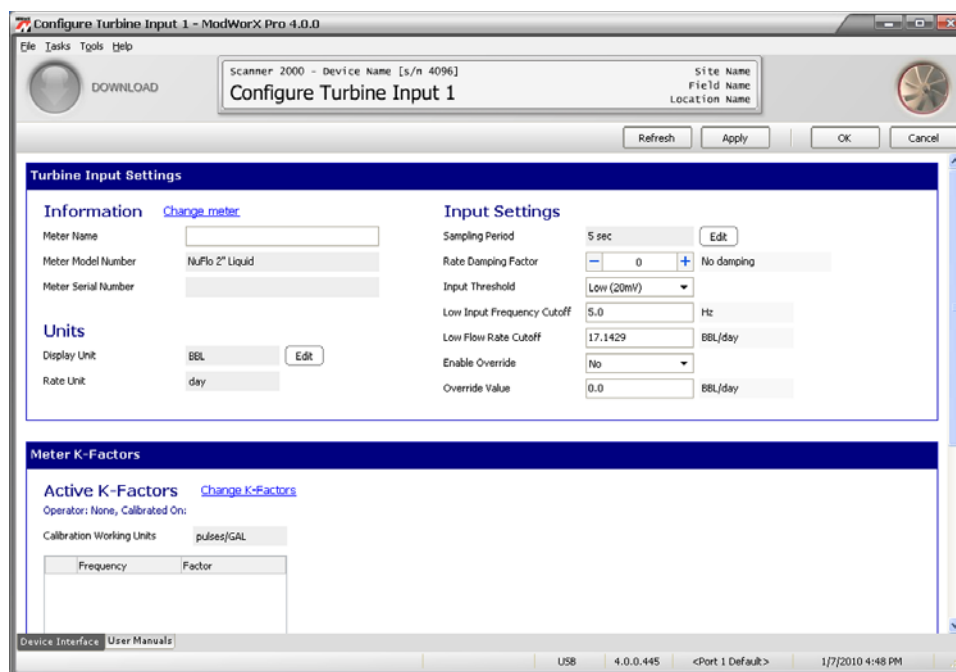

Figure 5.3
The Configure Turbine Input screen will appear (Figure 5.3).
1. Enter turbine input settings (Figure 5.3, page 69).